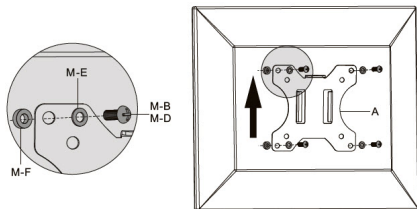

Figure 6
2. Remove any **Screws** or **Place Holders** from the **VESA Mounting Holes** on the back of the **Monitor**. (Figure 6)